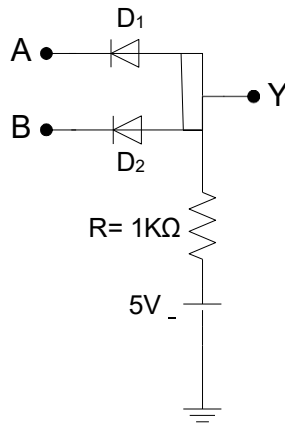

Figure 4.2: AND gate ( $Y=A \cdot B$ )
- 4.4.5 Follow procedure 1 to 4 for circuit of figure 4.2.